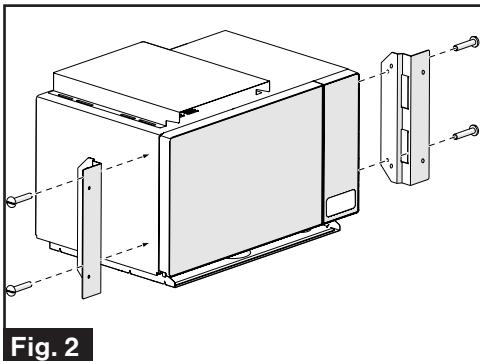

Fig. 2
- Attach the left and right metal brackets to the microwave oven and fix with 4pcs of PMA screws M4x12mm provided. (Fig. 2)